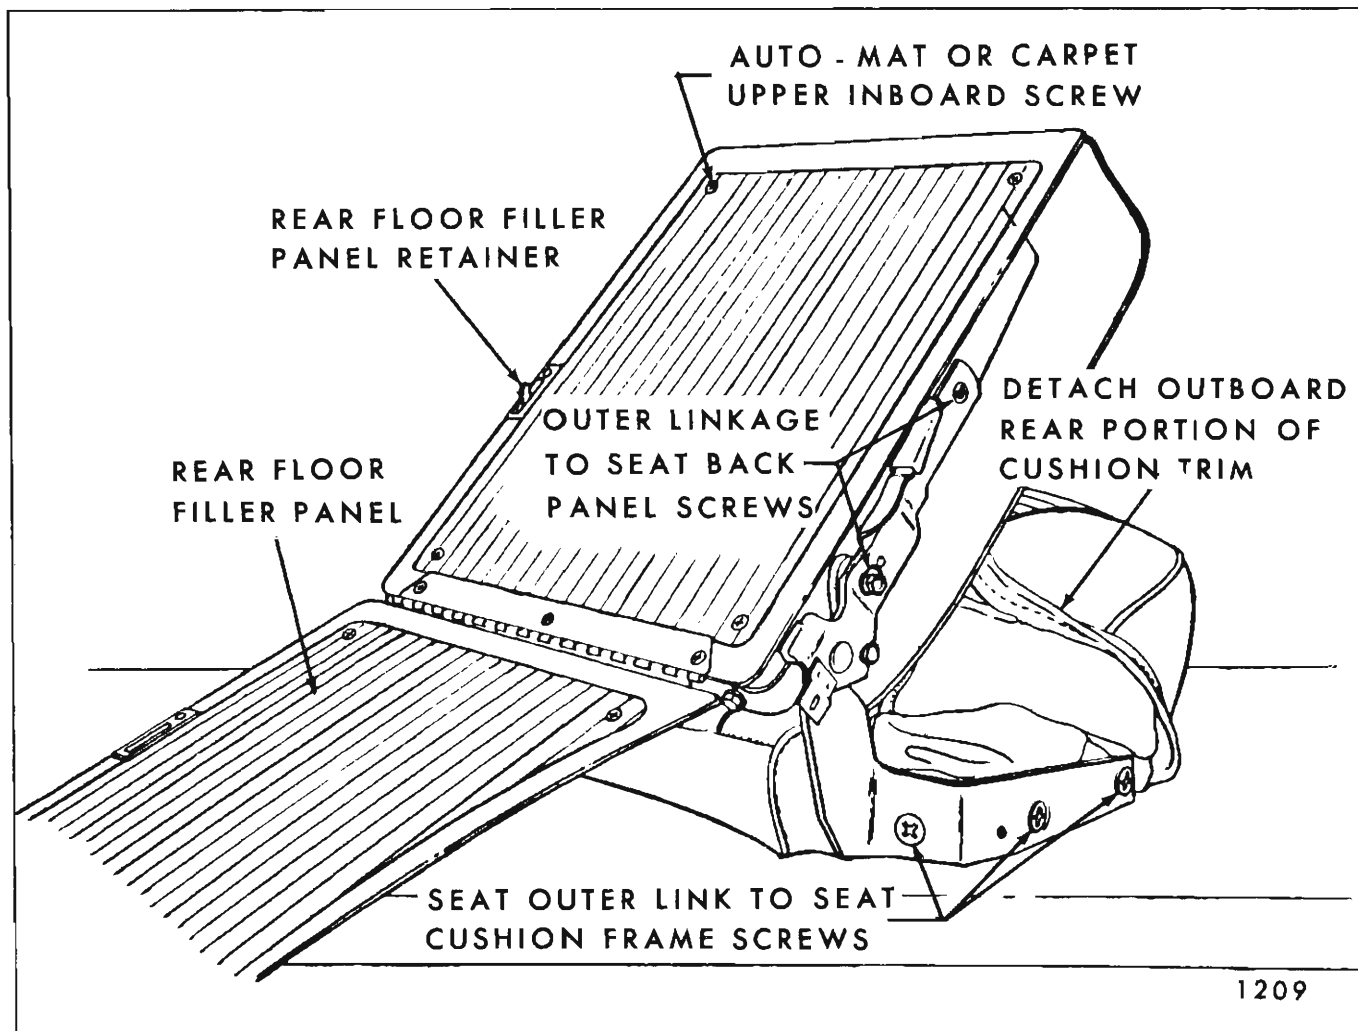

Fig. 2H29—Folding Second Seat Outer Linkage
2. Remove screws securing rear floor pan linkage to each side of seat cushion frame (Fig. 2H31); then, remove linkage assembly from seat.